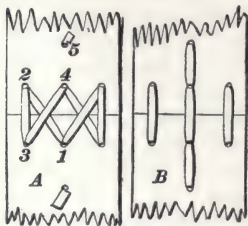

FIG. 16.
**34. Lacing.**—The ends of a belt may be joined by *lacing*, *sewing*, *riveting*, or *cementing*. Many ways of **lacing** belts are used. A very satisfactory method for belts up to 3 inches in width is shown in Fig. 16. Cut the ends of the belt square, using a sharp knife and a try square. Punch a row of holes according to the width of the belt, punching